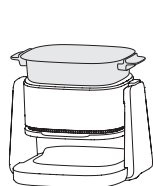
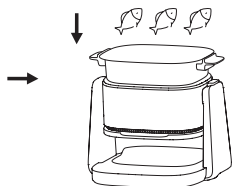

Fig 17
Fig 18
- ① Adjust the machine to grilling status and assemble grill pan(Fig17)
- ② Press “” button in quick start function area, display screen shows 200°C、20min.
- ③ Put oil into grill pan, press “” button to start preheating, display screen starts to show remaining time.
- ④ After 3 minutes, put fish into pan to grill (Fig 18), flip the fish in suitable time.
- ⑤ When the product makes five beep sound, the cooking is completed and the display area shows "End". Carefully remove the grill and take out the ingredients.